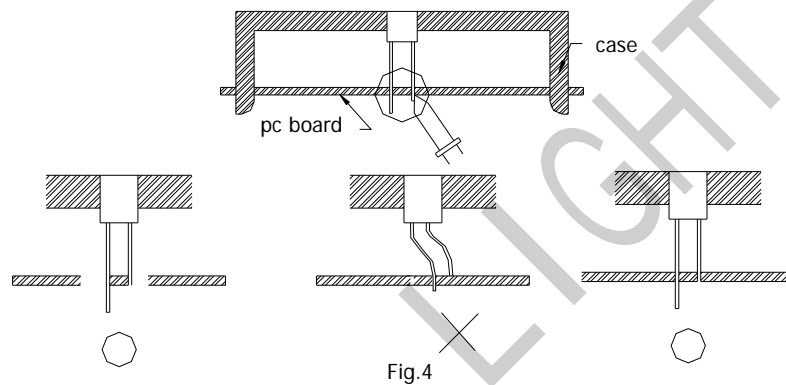

Fig.4
- 3) When mounting the LED by using a case, as shown Fig.4, ensure that the mounting holds on the PC board match the pitch of the leads correctly-tolerance of dimensions of the respective components including the LED should be taken into account especially when designing the case, PC board, etc. to prevent pitch misalignment between the leads and board holes, the diameter of the board holes should be slightly larger than the size of the lead. Alternatively, the shape of the holes should be made oval. (See Fig.4)